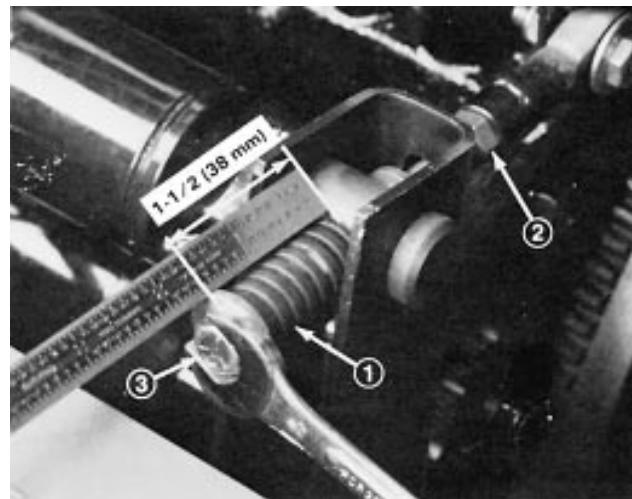

Figure 38
2. Loosen the tensioning rod jam nut (Fig. 38).
3. Use a 1/2" wrench to tighten or loosen the belt tensioning spring (Fig. 38). Adjust spring to a length of 1-1/2" (38 mm).
3. Using a 1/2" wrench, loosen the belt tensioning spring (Fig. 38) all the way.
5. Install the new PTO belt and re-tension the pulley spring to 1-1/2" (38 mm) (Fig. 38).
6. Tighten the jam nut (Fig. 38) and close the hood.
4. Adjust the air gap so that a .015 inch feeler gauge slides in between the clutch lining and friction plate with light pressure (Fig. 39). The gap can be decreased by turning the adjusting nut clockwise (Fig. 38).